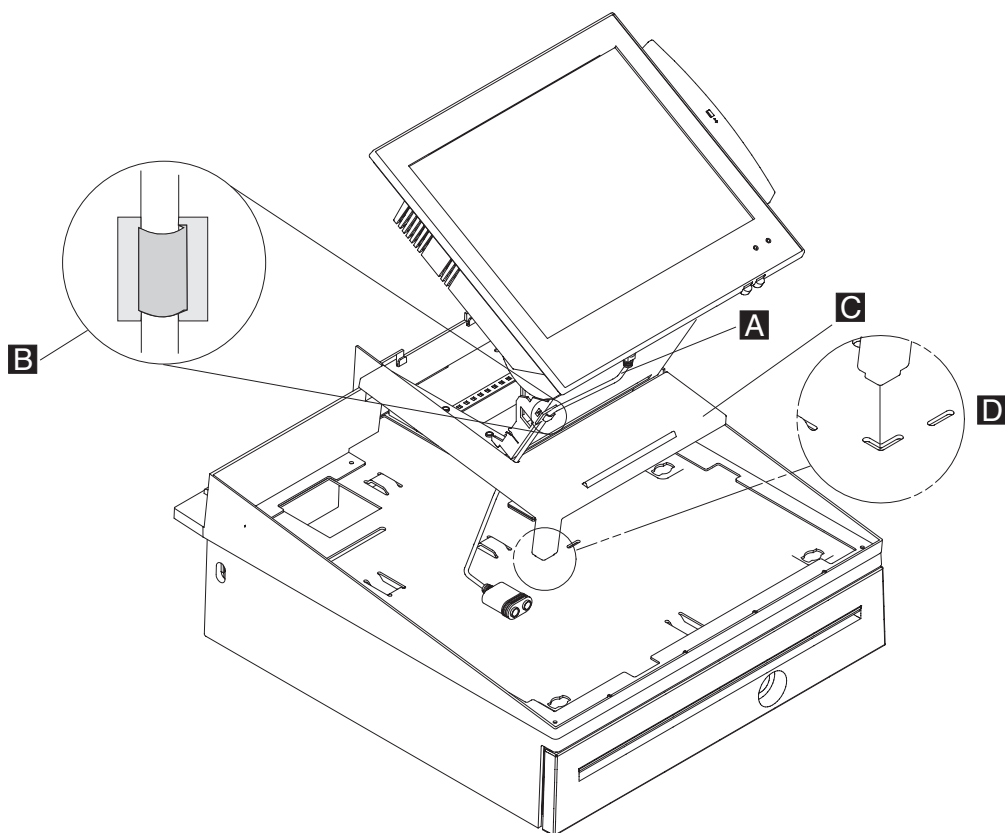

Figure 38. Removing the keyboard Y-cable
- a. Remove filler panel **C** by lifting the filler panel post up and off of slot **D**, as shown in the exploded view in Figure 38. **When reinstalling the Y-cable, make sure that the Y-cable is routed to the left of filler panel post **D**.**